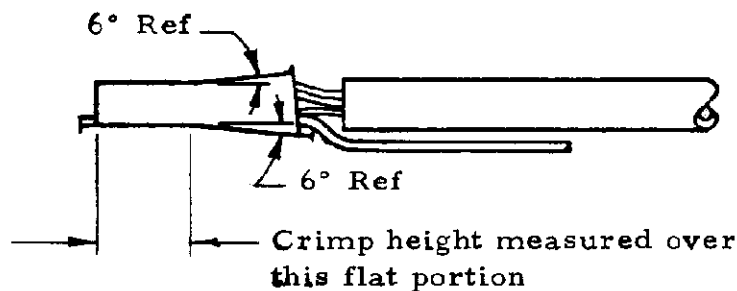

Figure 3
- (2) Consult AMP Engineering for specific crimp heights. Crimp heights specified by AMP Engineering shall be measured at the location shown in Figure 3, with a tolerance of  $\pm .003$  unless otherwise specified.